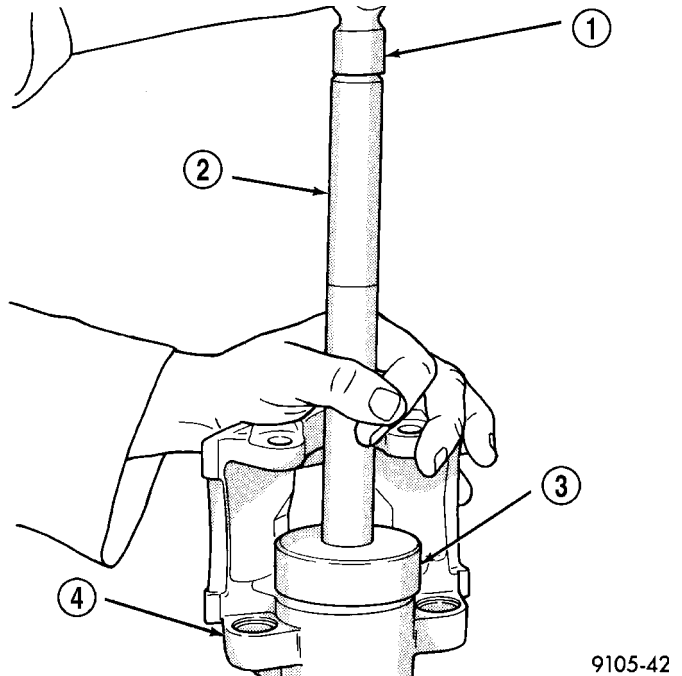

Fig. 39 Installing Dust Boot
(5) Position the dust boot into the counterbore of the caliper assembly piston bore.
(6) Using a hammer and Installer, Special Tool C-4689 or C-4842 (depending on piston size), and Handle, Special Tool C-4171, drive the boot into the counterbore of the caliper as necessary (Fig. 39).
(7) Reinstall the caliper on the vehicle and bleed the brakes as necessary. Refer to Installation in this section.